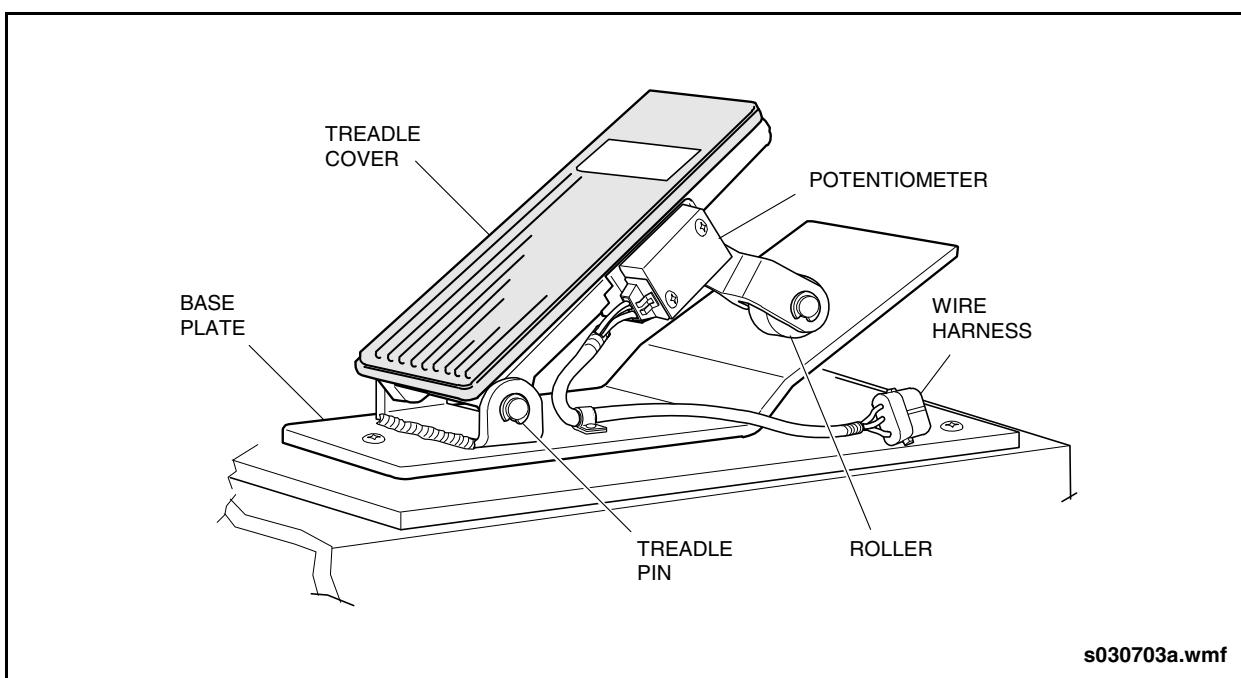

Fig. PM-31: Accelerator Inspection
- Check the area around the treadle to ensure that nothing will interfere with treadle operation (mats, discarded material and so forth). See "Fig. PM-31: Accelerator Inspection" on page 66.